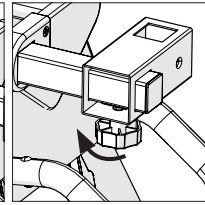

Fig. 4
- Slide the work support brackets onto the extension arms and lock in place with a locking knob **(Fig. 4)**